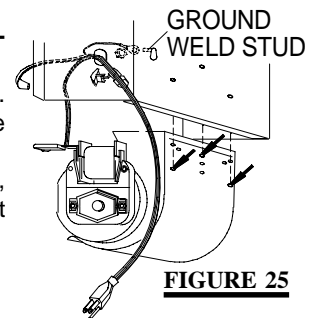

FIGURE 25
9. Bring out any slack in the blower cord. Place the cord into the split strain relief bushing, just at the point where the cord enters the slot. Clamp the two pieces together and insert the bushing securely into the slot. **FIGURE 25.**